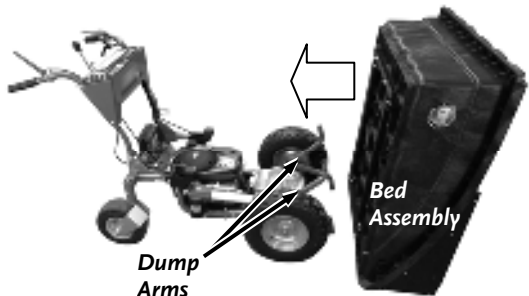

Figure 16
1. Place the Bed Assembly at the front of the machine with the Tailgate end resting on the ground (**Figure 16**).